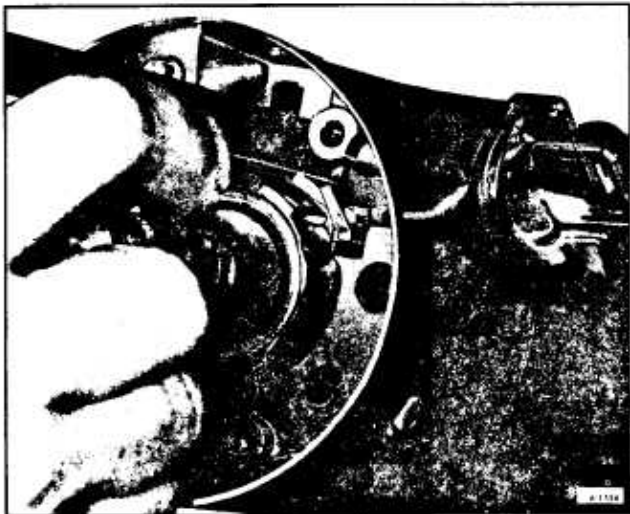

Figure 72-Removing Lock
11. Insert a thin tool (small screw driver or knife blade) into the slot next to the switch mounting screw boss (right-hand slot) and depress retainer at bottom of slot, which releases lock. Remove lock. (figure 72).